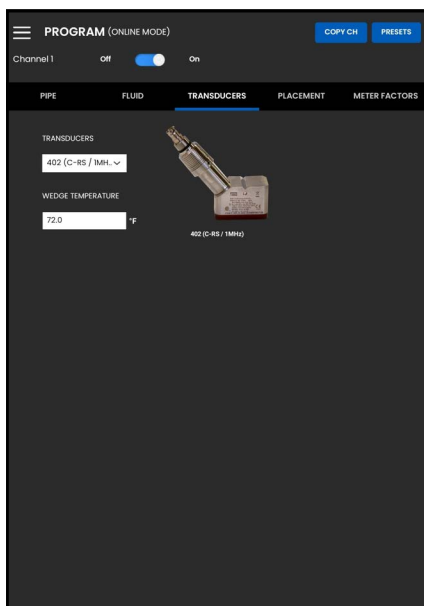
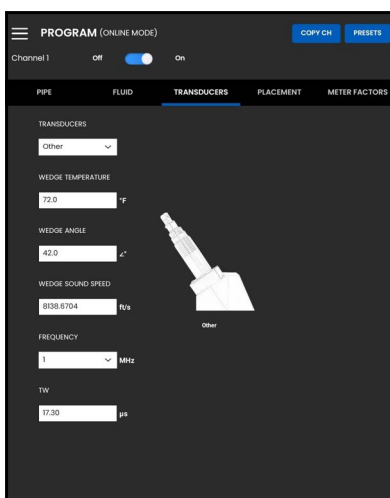

Figure 85: The TRANSDUCERS Menu
Figure 86: Transducer Menu Parameters
An example of this menu is shown in *Figure 85* below. See the following sub-sections for the options available in programming the transducers.
To program your transducer parameters, refer to *Figure 85* on page 56 and complete the following steps:
2. If you select standard transducer from the drop down, you will need to enter only the WEDGE TEMPERATURE (see *Figure 85*). But if you select other as your transducer model, few additional parameters will appear on the screen (see *Figure 86*) and you must edit this data with the correct specific information.